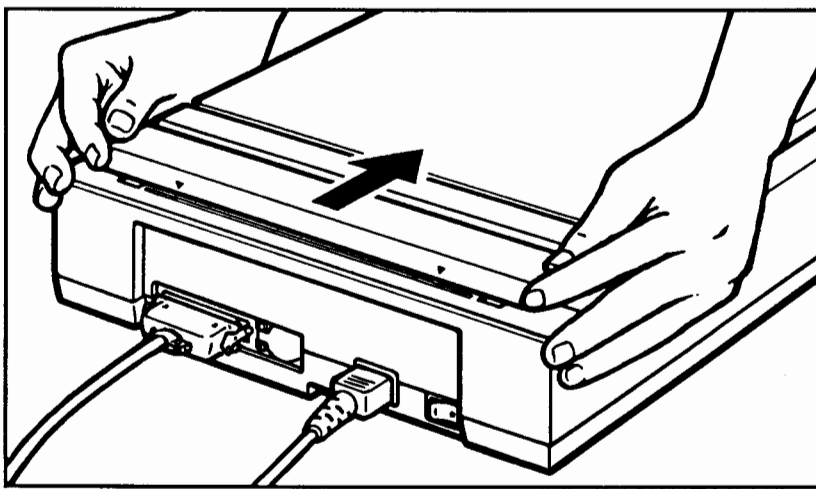

Figure 11. Sliding the Copyboard Cover Forward
2. Remove the copyboard cover by sliding it toward the front of the scanner. See figure 11.